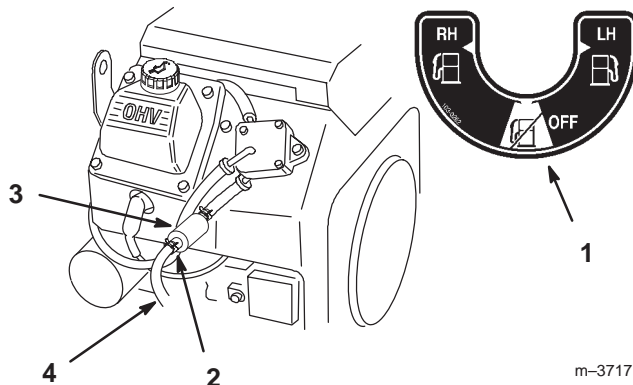

Figure 39
5. Install a new filter and move the hose clamps close to the filter (Fig. 39).
2. Close fuel shut-off valve (Fig. 39).
3. Loosen the hose clamp at the fuel filter and slide it up the fuel line away from the fuel filter (Fig. 39).
4. Pull the fuel line off fuel filter (Fig. 39). Open fuel shut-off valve and allow gasoline to drain into a gas can or drain pan.
5. Install the fuel line onto the fuel filter. Slide the hose clamp close to the fuel filter to secure the fuel line (Fig. 39).